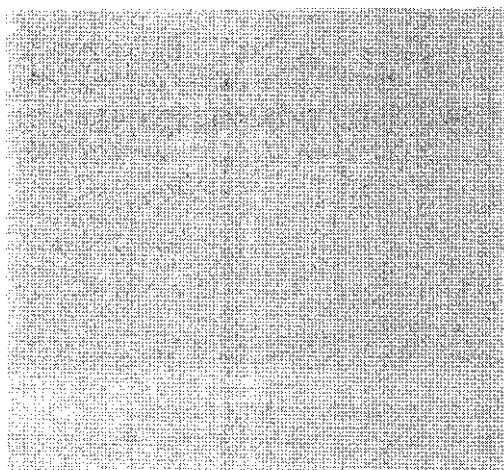

Figure 8. PIR Components, Battery Locations, & Tamper Switch
3. Remove the front cover of the sensor by depressing the two tabs on the top and the one tab on the bottom of the sensor body and sliding the cover off (see figure 8).
When battery replacement is necessary, observe proper polarity (as shown in the battery compartment), or the sensor may be damaged. The 60-700-95R and 60-700-95R-OD SAW PIRs require two AA alkaline batteries and the 60-703-95 Crystal PIR requires only one AA lithium battery which can be placed in either battery compartment. Remove the mounting plate and cover to reveal the battery compartments shown in Figure 8. Be sure to note that as you look at the battery compartment, on the left side the positive side is down and on the right side the positive end is up. When the batteries are replaced, wait at least 3 minutes after installing the batteries before activating the walk test mode.
2. Remove the cover by depressing the two tabs on the top and the one tab on the bottom of the sensor body and sliding the cover off (see Figure 8).